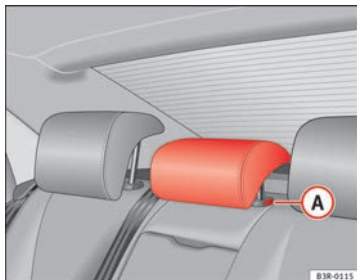

Fig. 113 Centre rear seat: Head restraints
- Press button **(A)** ⇒ fig. 113 and lower the head restraint.
- Press button **(A)** ⇒ fig. 113 and pull out the head restraint.